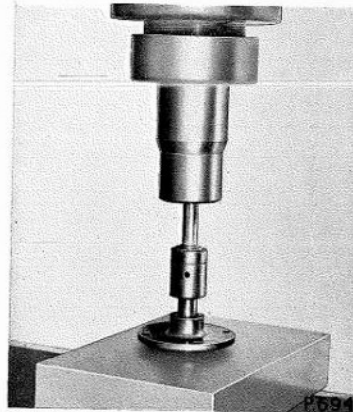

Fig. A.6. Pressing the bearing shaft into the fan mounting flange (Pump body omitted for clarity)
2. Press the larger diameter of the bearing shaft into the fan mounting flange (flange face downward), until the dimension shown in Fig. A.1 is obtained, thus guaranteeing correct alignment of the fan and crankshaft pulleys on re-assembly. It is recommended whilst pressing, that the mounting flange be suitably supported on the table of a press and the ram applied to the opposite end of the bearing shaft, as shown in Fig. A.6.